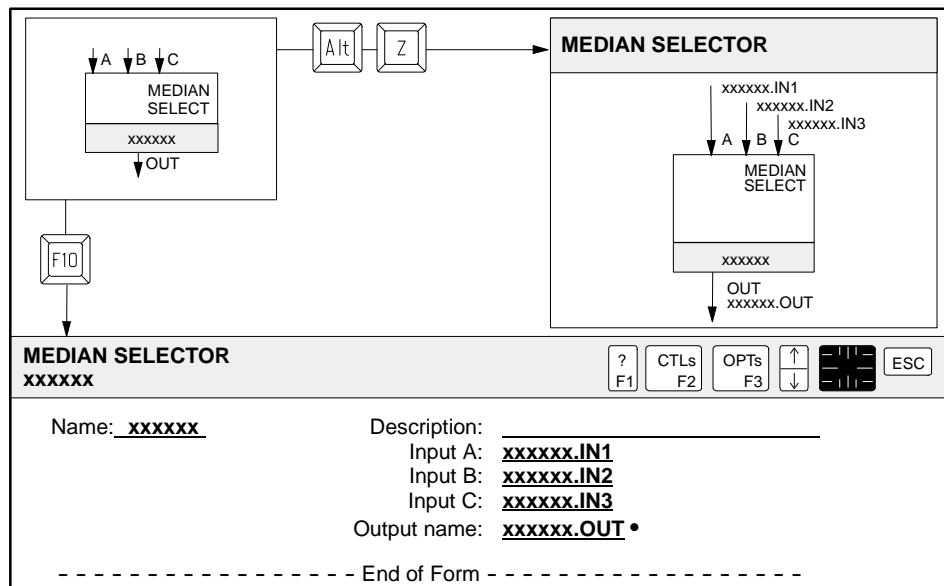

Figure 6-7 Median Selector Form
- Block Configuration** When you define a median selector CFB with the form in Figure 6-7, you have the following options: